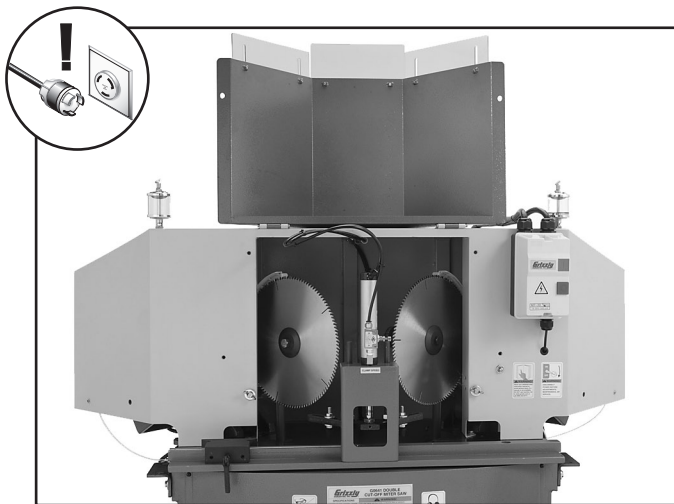

Figure 45. Guards removed to access pivot arm assemblies.
2. Raise the front guard up, and remove the inner blade guard to access the pivot arm assemblies and motors (see **Figure 45**).